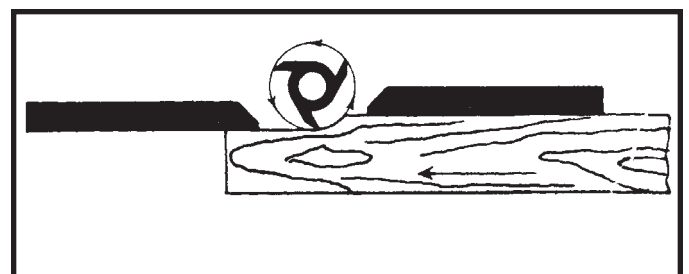

Fig. 59
3. The rear fence should then be advanced to contact the work, as shown in Fig. 59. The rear fence will then be in line with the cutting circle.